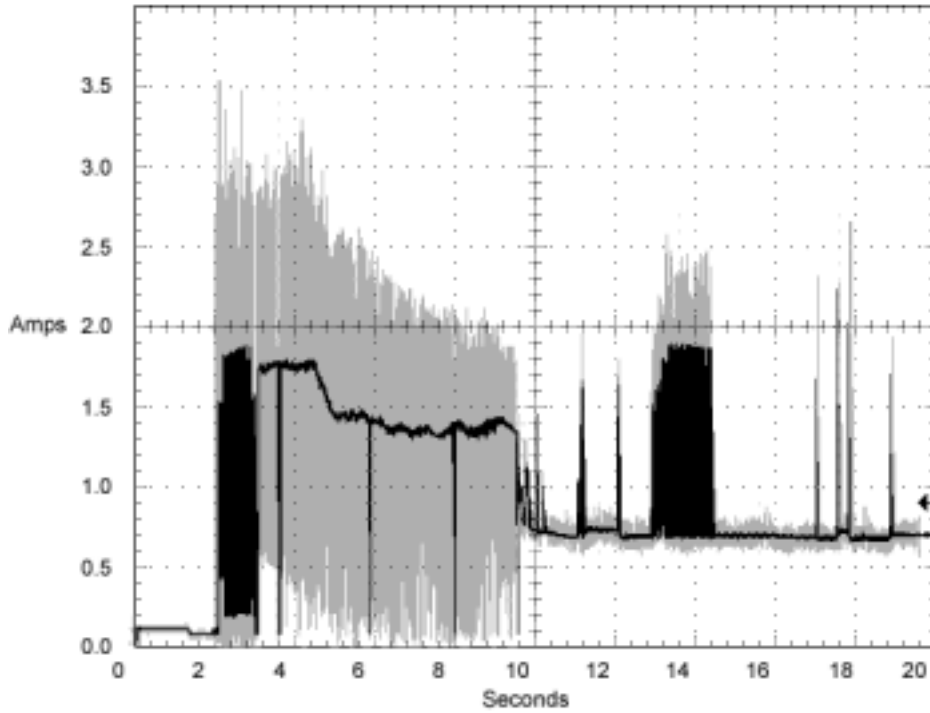

Figure 2. Typical ST330007FC drive, 2 Gbit, +12V current profile
- [3] See +12V current profile in Figure 2.
Figures 2 through 7 identify the drive current profiles. The current during the various times is as shown: